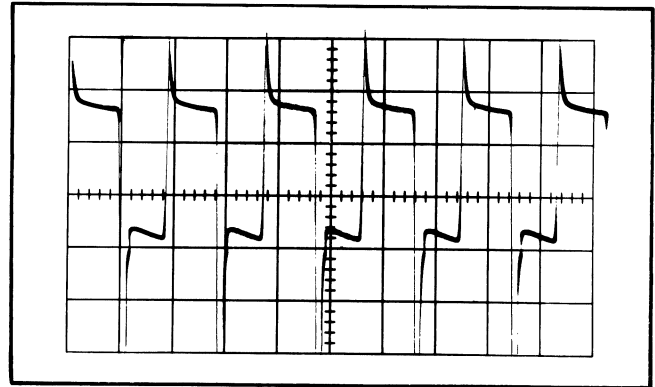

Fig. 2-2. Chopped waveform display.
3. Adjust the oscilloscope triggering controls for a stable chopped waveform display (Fig. 2-2).